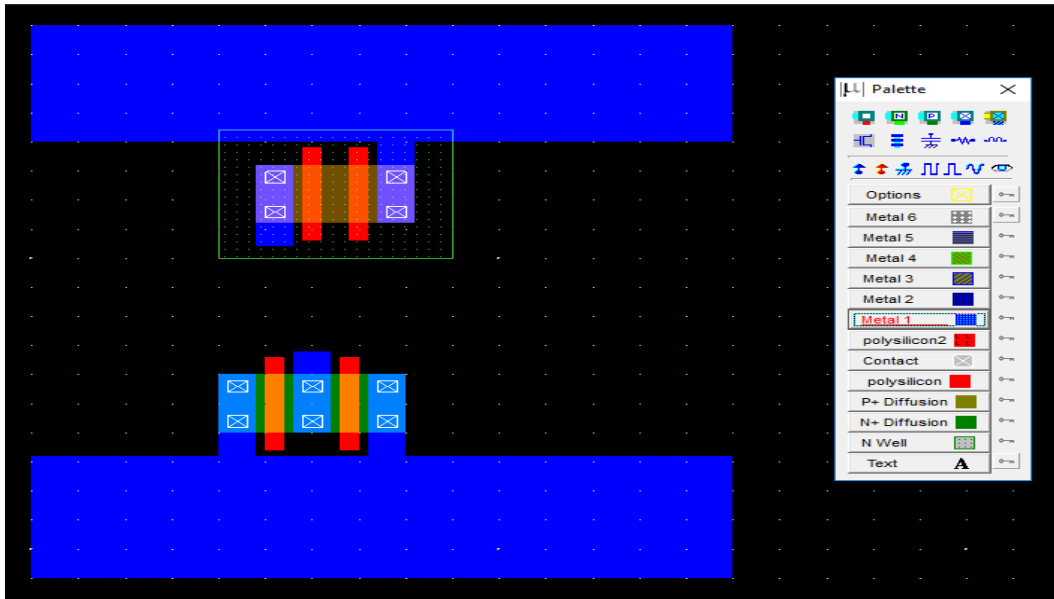

Figure 38: insert PMOS device to the Vdd
- The next step is to connect the poly to metal1 and then to metal2. The first symbol in the first row of the palette is the poly to metal1 contact. See figure38: